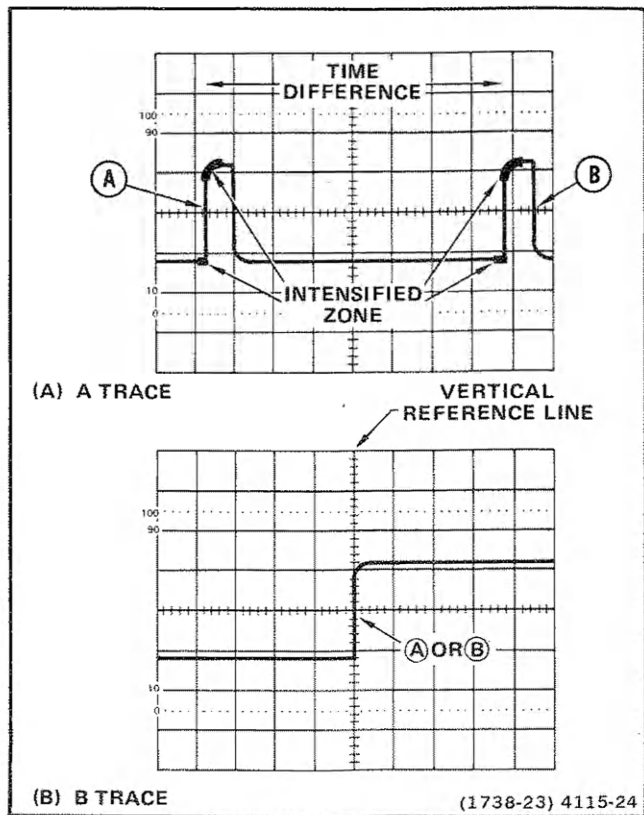

Figure 26. Time difference between repetitive pulses.
**EXAMPLE:** For the pulses illustrated in Figure 26, the first B DELAY TIME POSITION dial setting is 1.31 and the second B DELAY TIME POSITION dial setting is 8.81, with the A SEC/DIV switch set to  $0.2 \mu\text{s}$ .